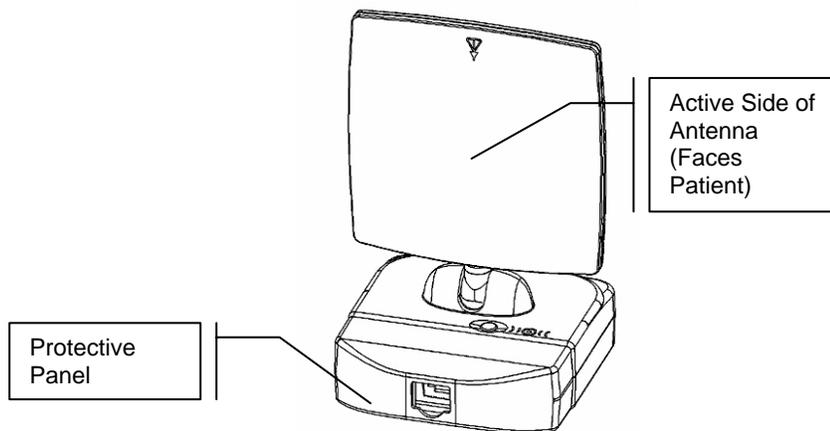

Figure 11. Antenna / Receiver with Protective Panel Attached
3. Using a Phillips screwdriver, secure the protective cover to the Antenna / Receiver with two (#6 x 3/4) screws (provided). (See **Figure 11**.)